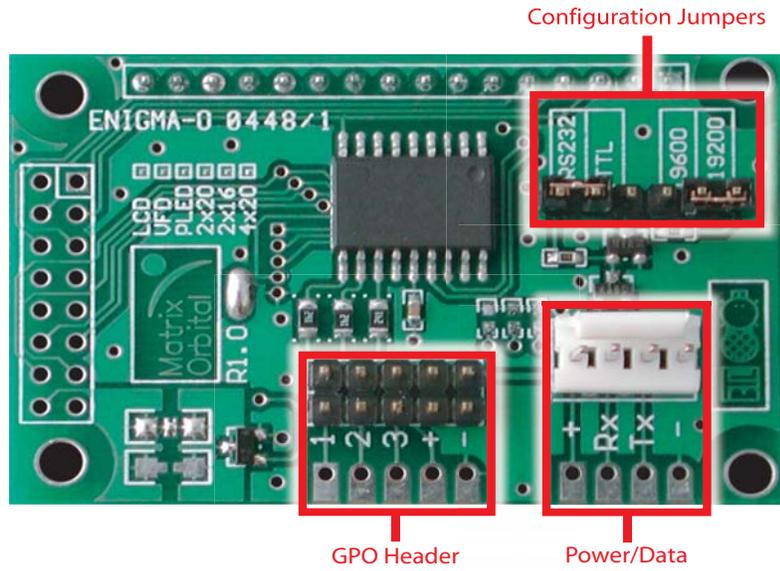

Figure 7: Connections for Testing
2. Familiarize yourself with the 2x5 header connector, also known as the GPO header labeled in Figure 7. You will need 3 jumpers that will short a combination of the pins as described later. The connector has been labeled with "1,2,3,+,-". You will only be shorting a combination of the pins labeled "1,2,3" to the other row of the header.